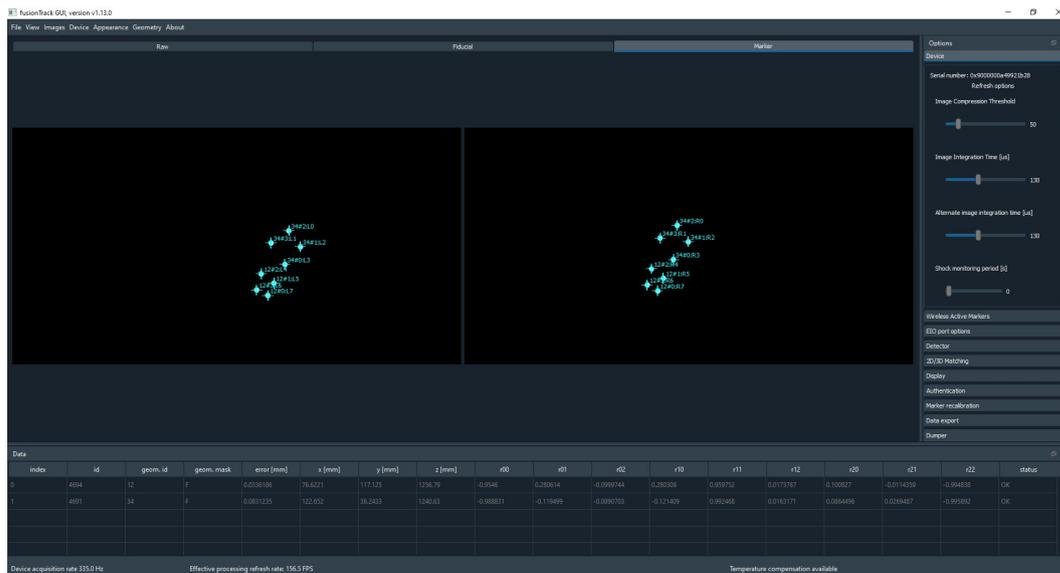

Figure 8.1: Running GUI program.
- *Marker*, consisting of a 3D position and a rotation matrix (this is what is shown on Figure 8.1). The demo allows to open the two storage locations in order to see the files.